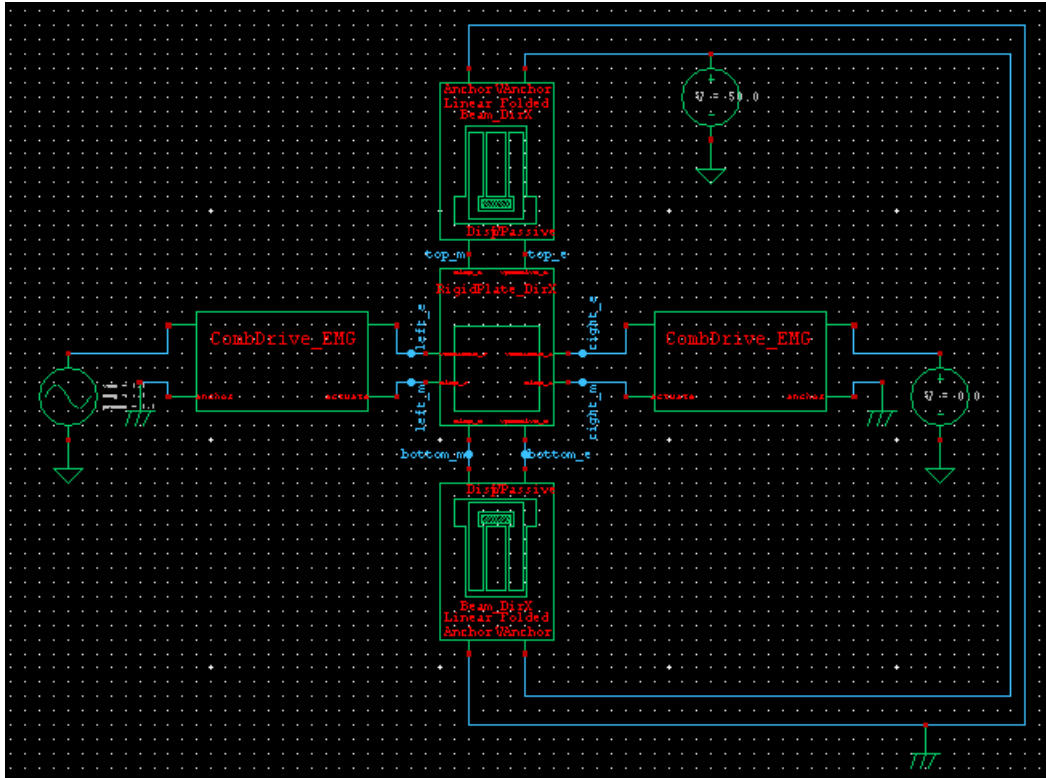

Figure 94: Resonator Circuit
- ☑ Place the first comb drive to the right side of the plate and connect its pins as shown in Figure 94.
- ☑ Do the same previous steps to instantiate another comb to the left side of the plate as shown in Figure 94.